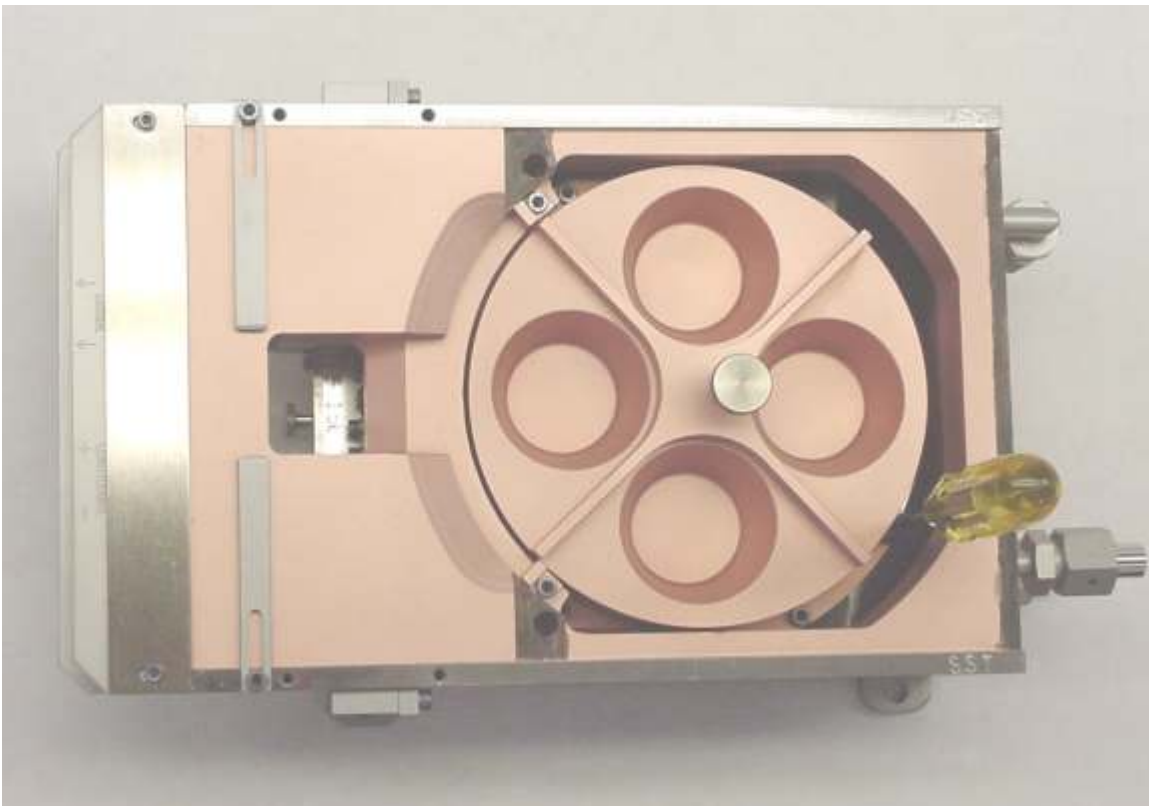

Figure 5-4. Removing the screws that secure the crucible to the crucible mounting flange
- Step 10. Remove the screws that secure the crucible to its mounting flange. There are eight of these screws, six of which will be accessible if you turn the crucible to the position shown in Figure 5-4. Perform the following steps in removing these screws: